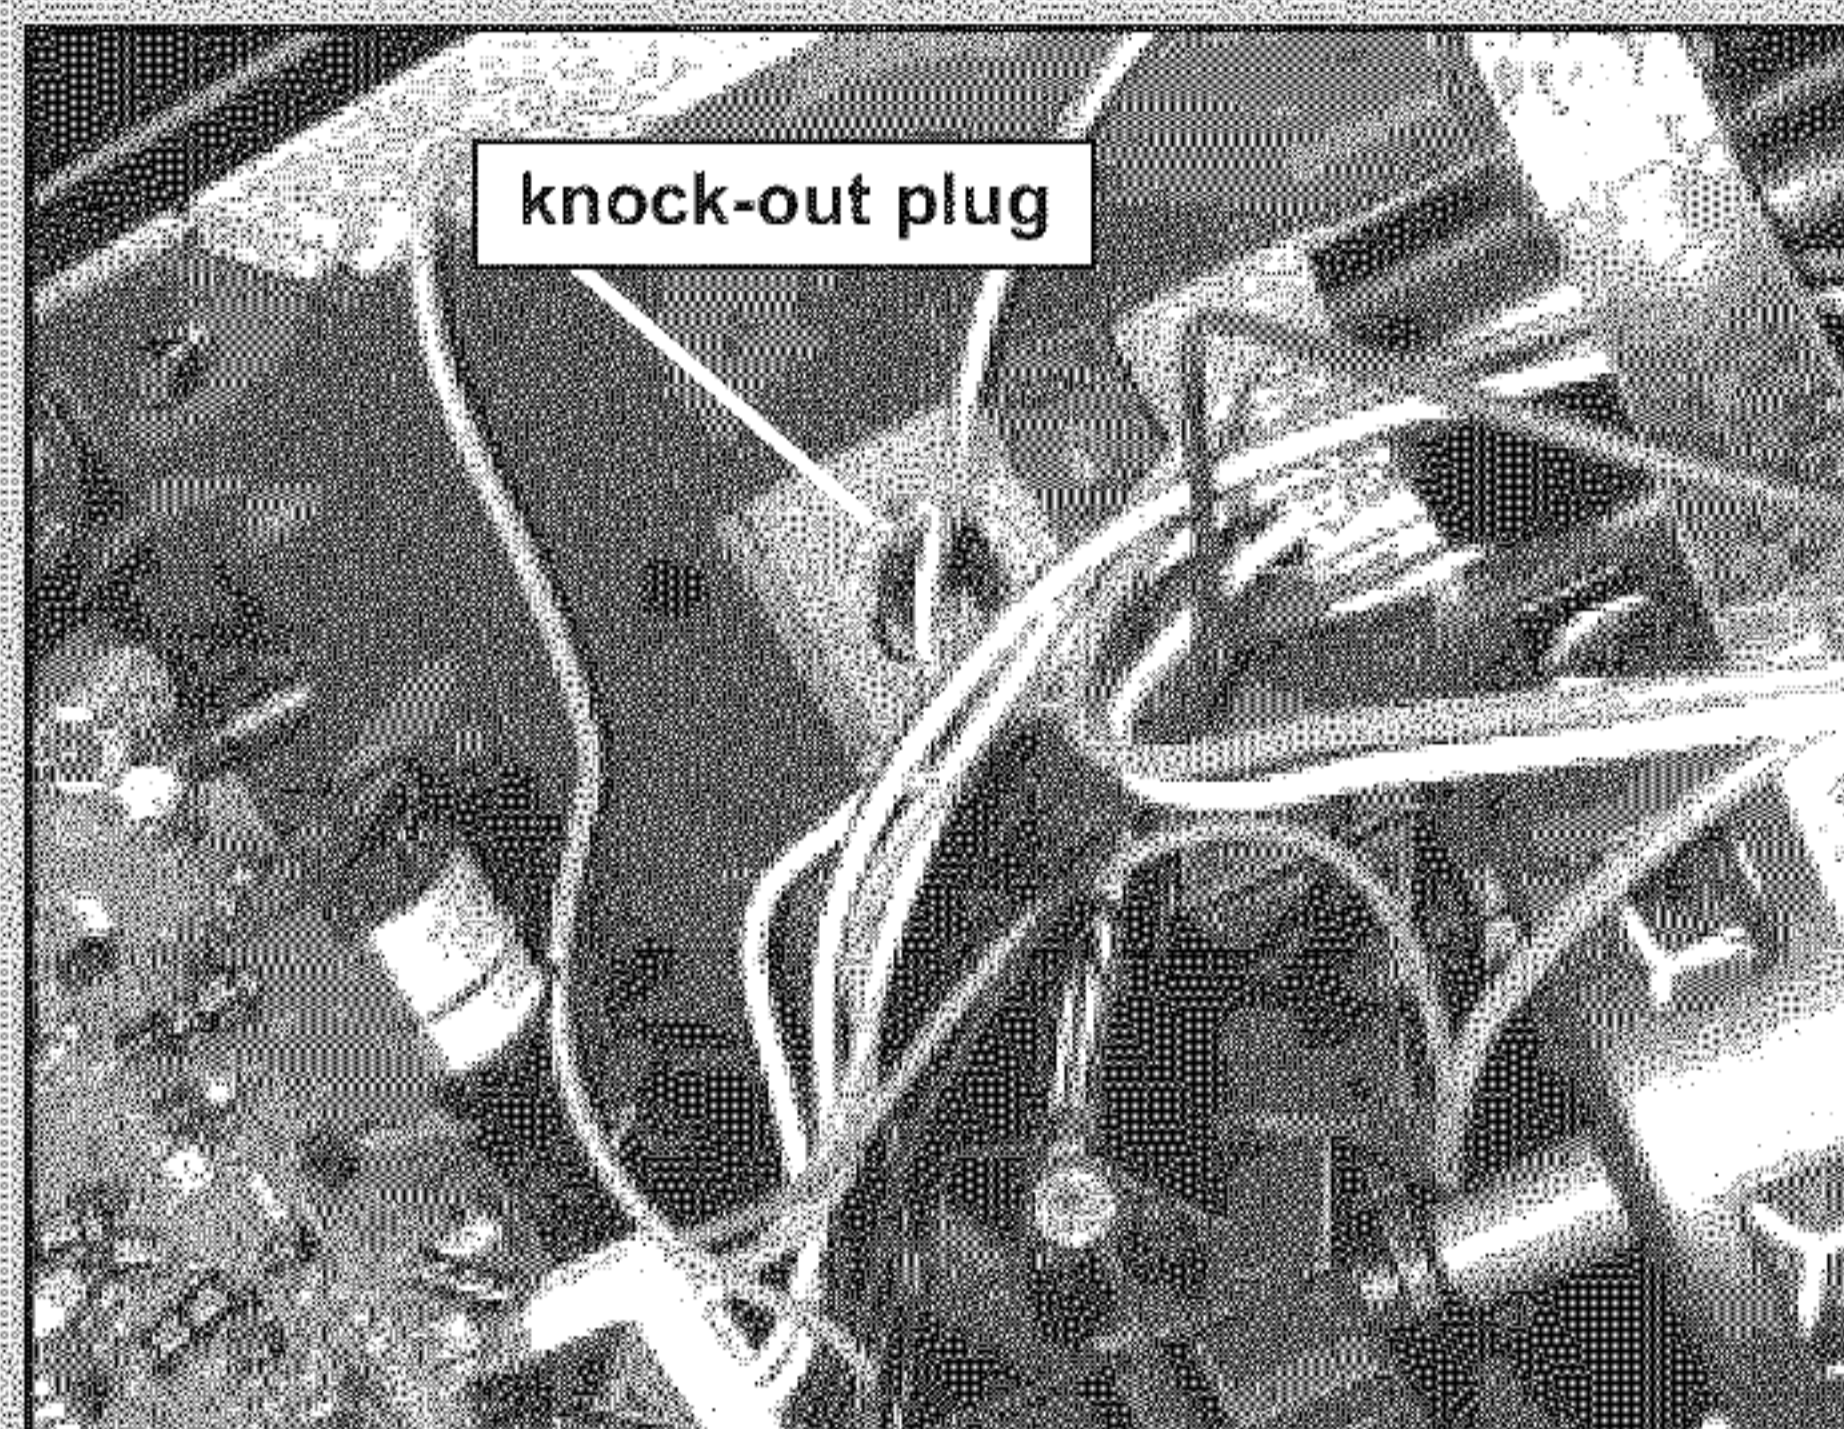

FIG. 6-2 Knock-out plug
- Remove 7/8" knockout plug (Fig. 6-2).